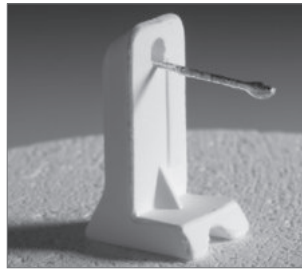

Fig. 1: Temperature ideal
- started to melt: Temperature ideal (Fig. 1)
Experience has shown that a recalibration of  $\pm 5\text{ °C} / 9\text{ °F}$  is appropriate. After adjusting the calibration value, run the calibration program again until the silver wire has correctly started to melt (Fig. 1).
The calibration value has been saved. Run the calibration program again and make sure that the silver wire has correctly started to melt (Fig. 1).